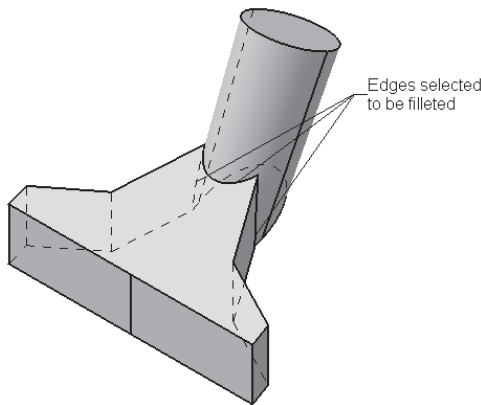

**Figure 5-79** Sketch for the **Pocket** feature
- Create the third feature of the model, which is a cut feature. It will be used to remove the unwanted portion of the second feature, refer to Figures 5-79 and 5-80.
9. Select the ZX plane and invoke the **Sketcher** workbench. Draw the open sketch, as shown in Figure 5-79, and exit the **Sketcher** workbench.